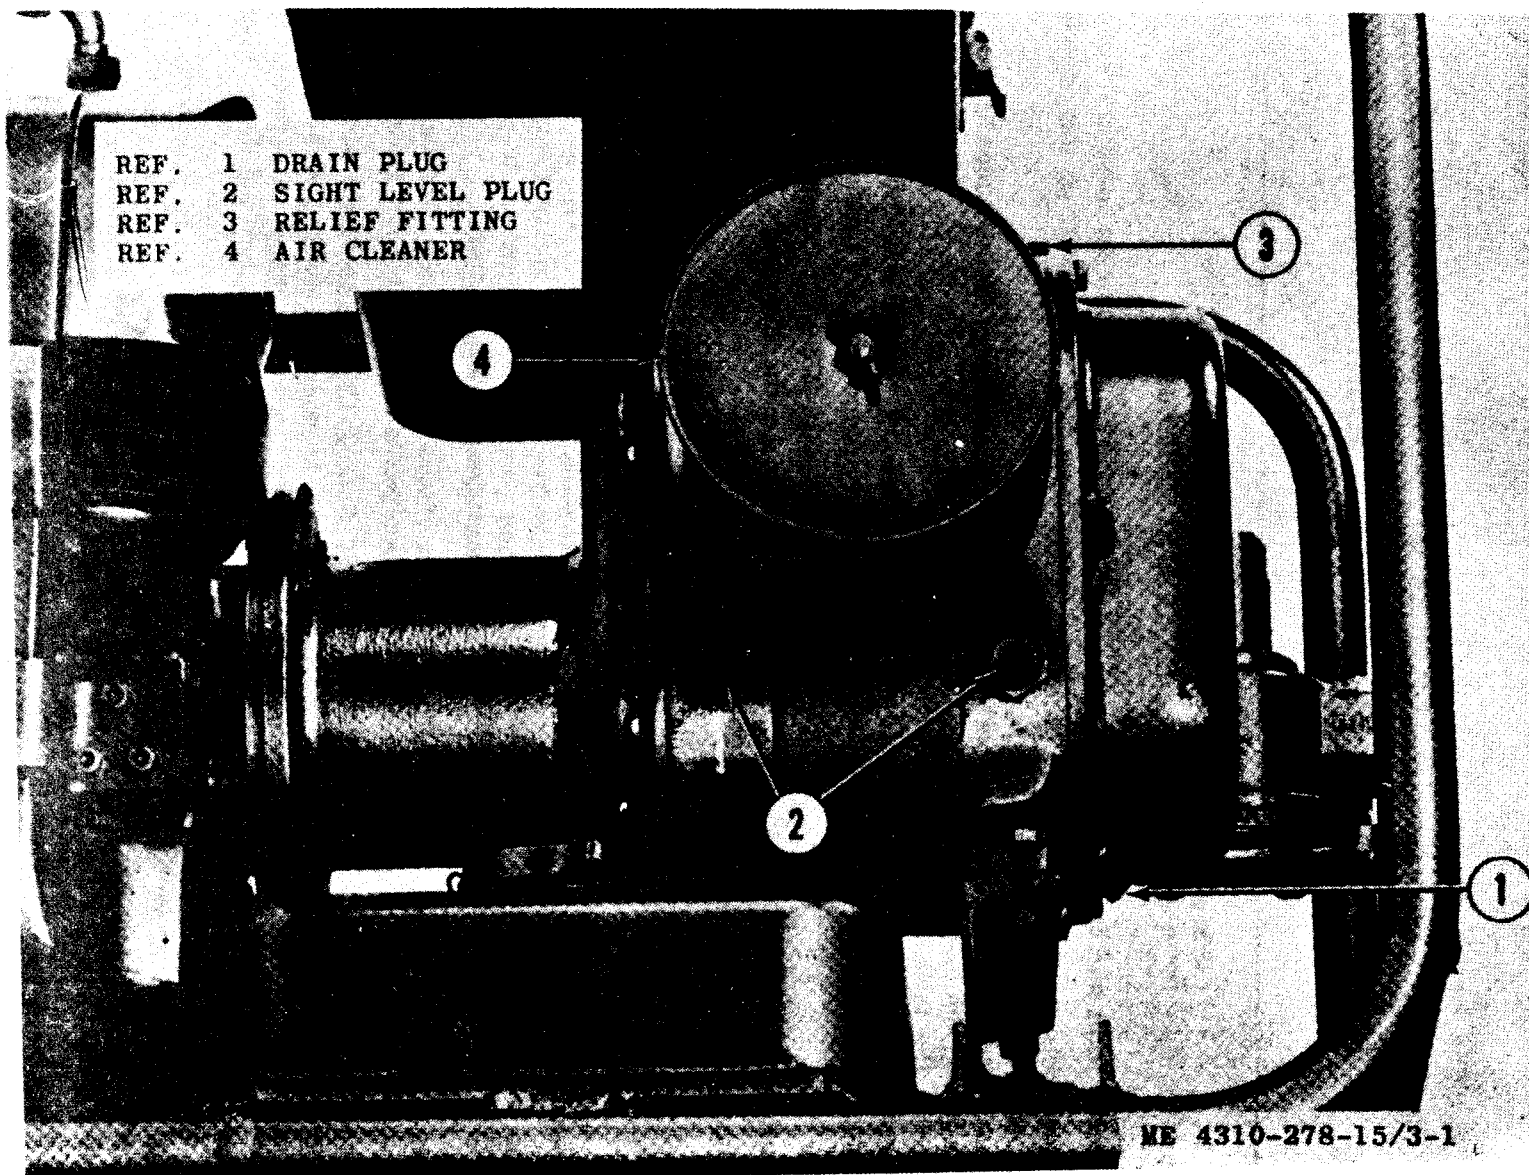

Figure 3-1. Air compressor service points.
c. Points of Lubrication. Service the lubrication points as illustrated in figure 3-1.